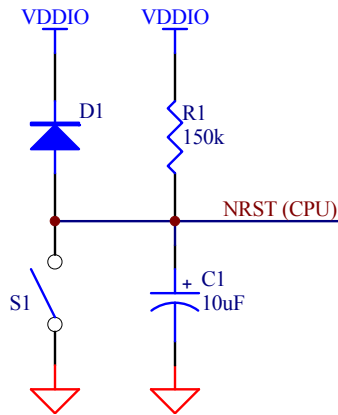

Figure 1. Reset circuit.
Step 1. To get started you will need to install the CPU module on the breadboard. Note that the CPU requires two power supply voltage levels, VDDCORE = +3.3V and VDDIO = +5V, connected to the two corresponding pins on the CPU module. It is very important to make sure that the correct voltage is connected to the correct pin; otherwise you will be running the chance of frying the CPU. Naturally, all the ground pins need to be connected to the common ground of the entire board. The crystal should be connected to pins XIN and XOUT; keep in mind that the crystal has to be directly connected to the pins. The two signals PLLA and PLLB will be initially connected to ground, but this will change in the later steps of the lab. Finally you need to have a reset button; this will be a simple circuit which will later be modified in Lab2. For the purposes of this lab, it should suffice to build the circuit shown in Figure 1.